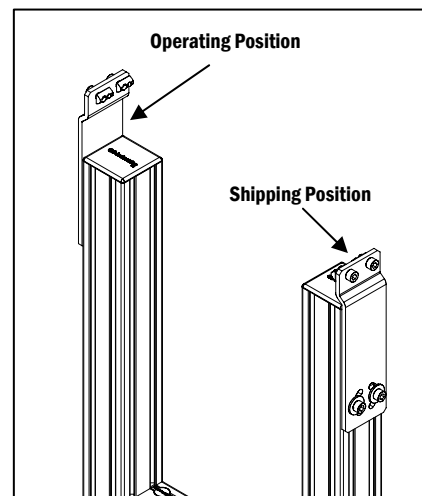

Figure 2
a. For shipment, the stands will have their mounting brackets slid down the extrusion. Use an Allen wrench to loosen the M6 Socket Head Screws holding the Brackets and move them up to engage the conveyor frame, approximately 1 1/2" (or more for cleated belts) (Figure 2).